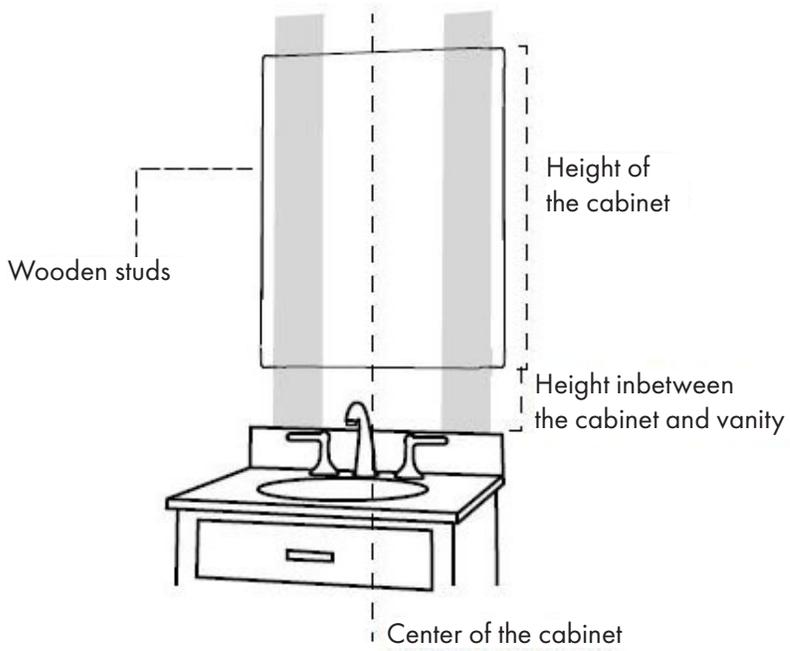

Fig. 1
1. Center your cabinet in desired location on the wall. For secure application, locate the studs within the wall to mount the cabinet properly. If you cannot locate the studs, you will need to purchase additional hardware to secure your cabinet to the wall and/or open the wall to install additional bracing. (Figure 1)
3. Allow for 1" of clearance on height elevation above any obstructions as illustrated in Figure 1. * Note the door will exceed the cabinet body by 1" on top and bottom of most cabinets. Refer to technical data for exact sizes.